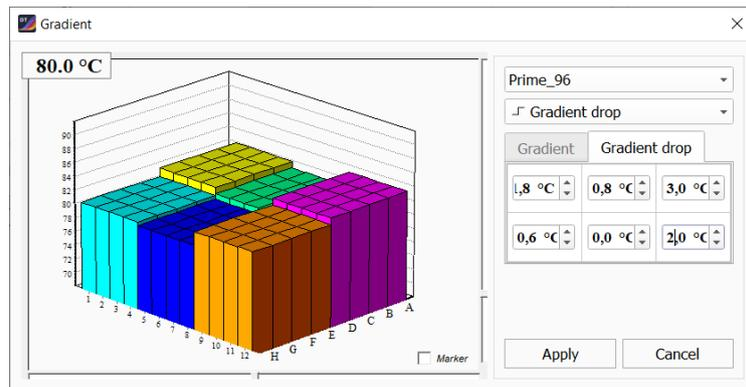

Figure 17 – Gradient drop
4. In the opened 4x4 matrix, enter the corresponding values of the temperature drop by blocks (colored area in fig. 17). Click the **Apply** button to run the program.